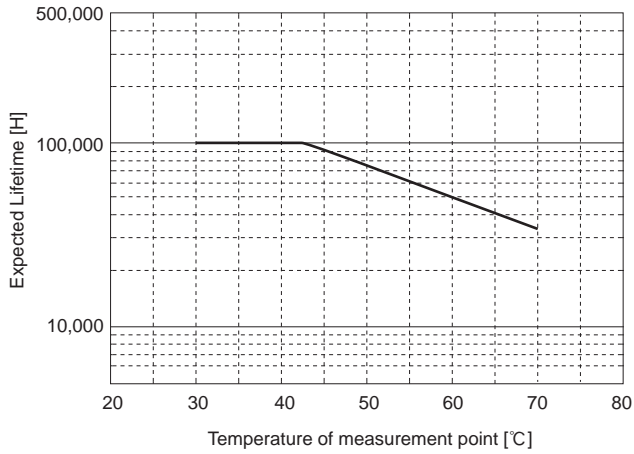

Fig.3.7 Expected lifetime of fan
■Fans should be exchanged on a regular basis. Their expected lifetime (R (t) = 90%) depends on use conditions as shown in Fig.3.7